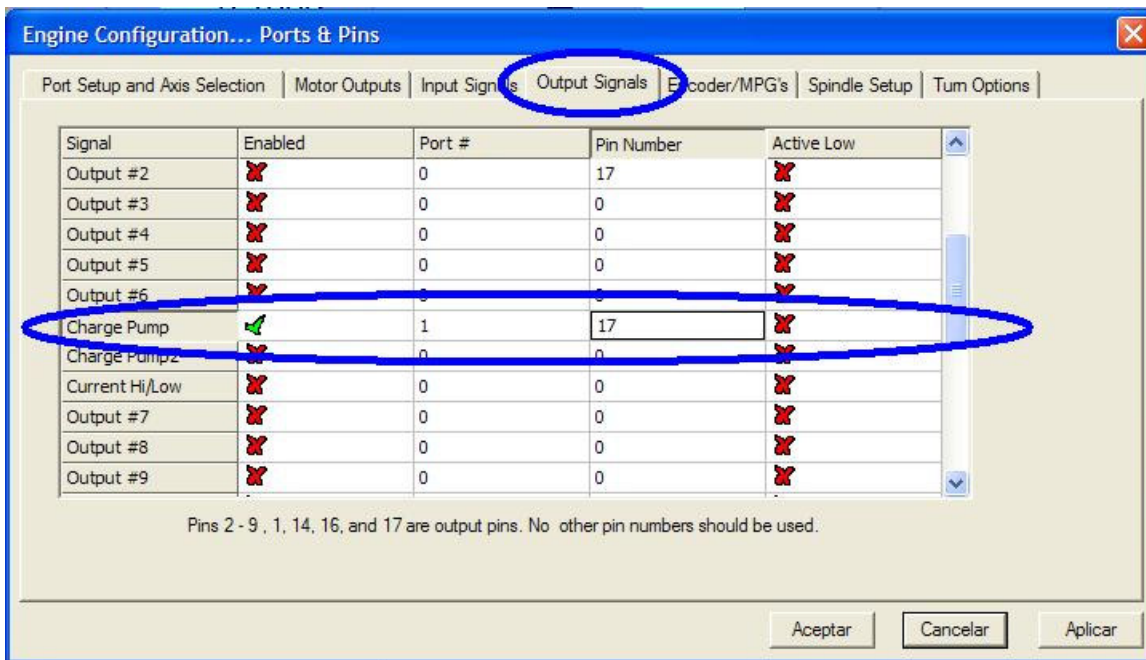

Fig. 6. Charge Pump configuration
Step 2. Configuring the *Charge Pump* in Mach X: To do this use the dialog *Config / Ports and pins / Output Signals*. Enable the *Charge Pump* output and configures it as is shown in the Fig. 6 Next, press the *apply* button.